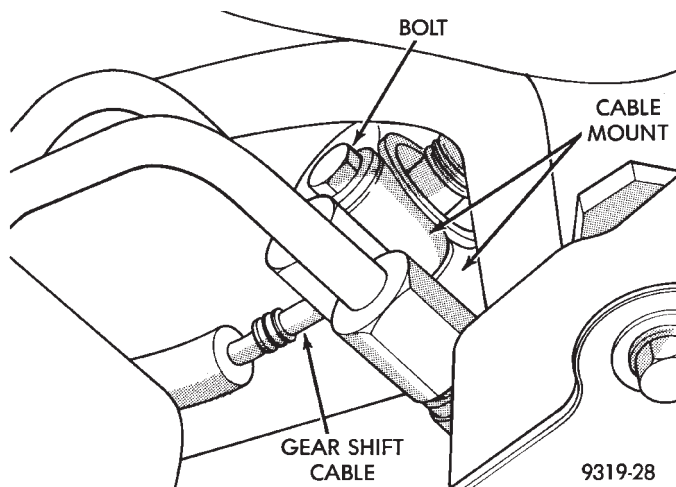

Fig. 2 Gear Shift Cable Attachment To Transaxle.
(3) Remove gear shift cable, from shift lever on transaxle. Loosen bolt (Fig. 2) at gear shift cable to transaxle mount. Remove gear shift cable from transaxle.